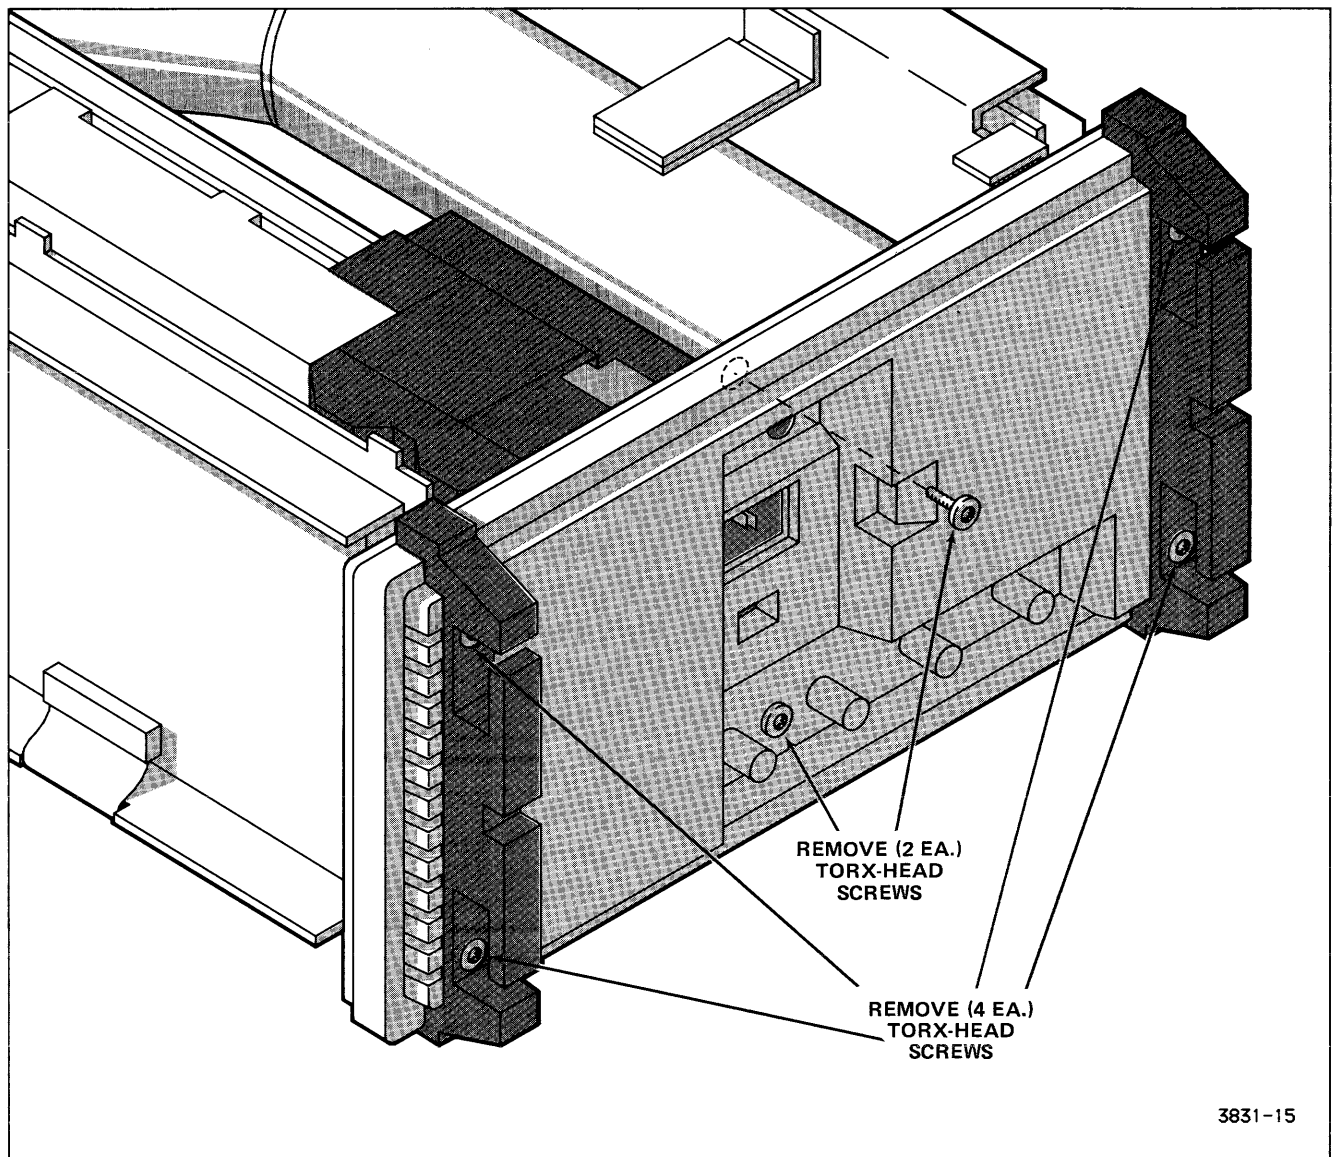

Figure 6-2. Rear panel removal.
5. Remove the four screws in the rear-panel feet (see Figure 6-2).
6. Remove the two screws from the top-center and bottom-center of the rear panel (see Figure 6-2).